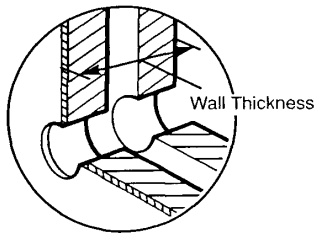
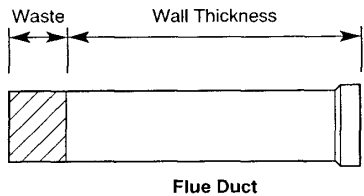

Fig. 22
Fig. 23
1. Measure the wall thickness (Fig. 22). Mark this dimension on the **Flue Duct** from the flared end and cut the waste off the plain end (Fig. 23).